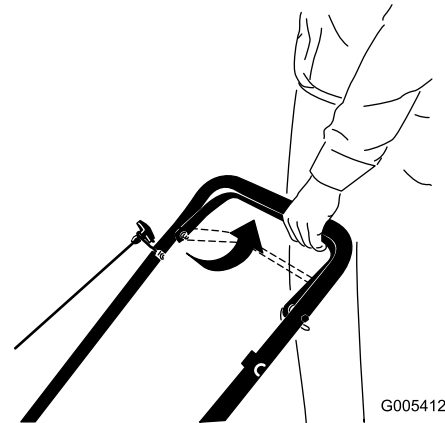
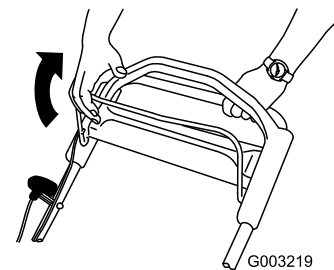

Figure 15
Figure 16
- 3. Hold the blade control bar against the handle (Figure 15) or (Figure 16).